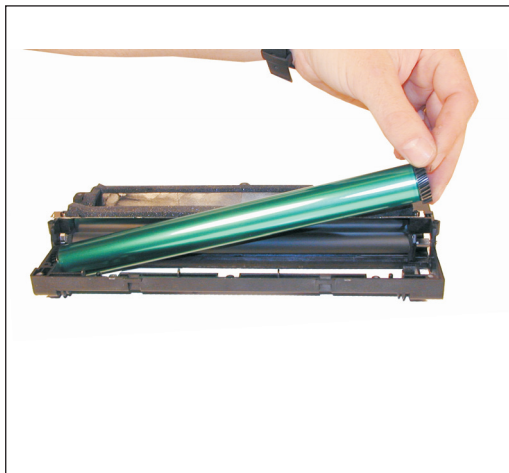

Figure 16
10) With the PCR Cleaner Assembly removed, the drum can easily be removed by lifting it out. See Figure 16